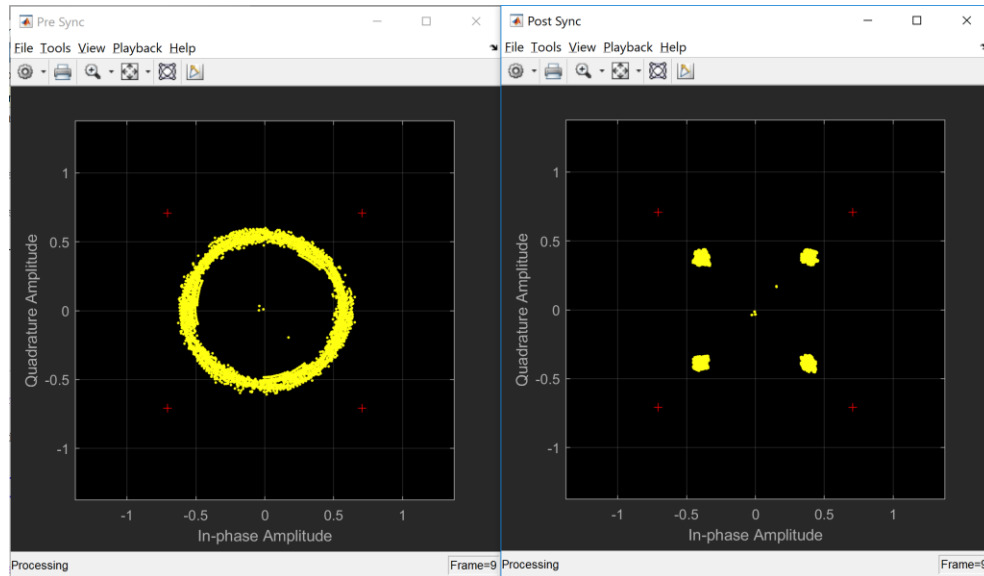

Figure 7 Constellation of QPSK recovery signal before and after carrier and timing synchronization
**Rerun the script with these modifications to visualize the timing- and frequency-synchronized signal.** This should look similar to Figure 7 below, which has the correct phase orientation to the constellation for QPSK.